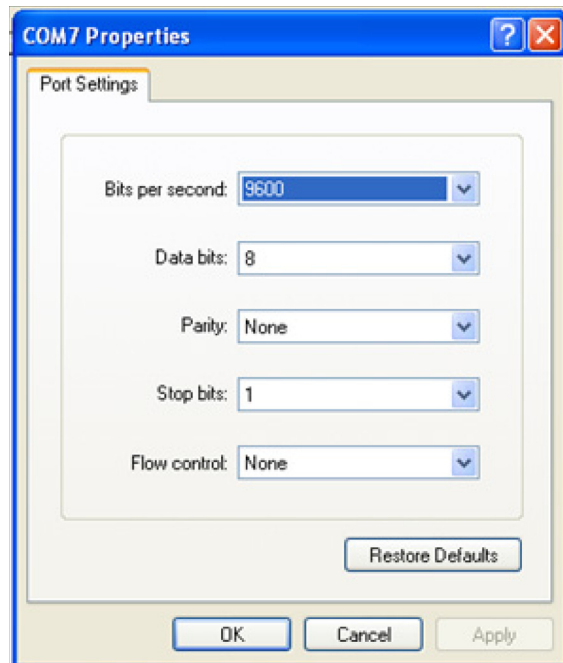

Figure 20-9. COM Port Properties
6. Configure the virtual COM port baud rate and other properties as shown in Figure 20-9.